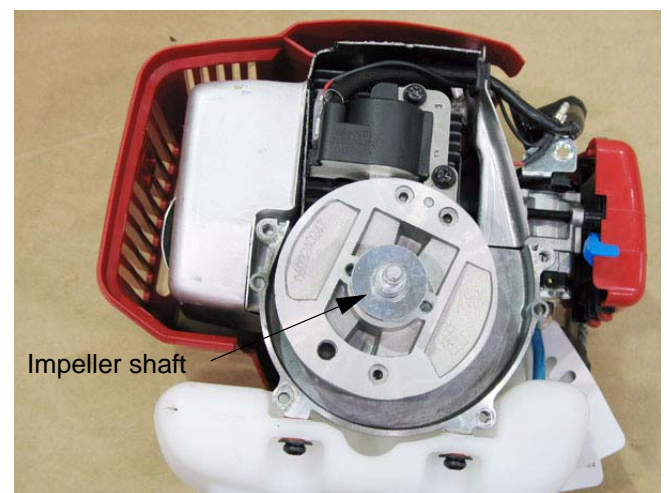

Figure 10.3
- 2a. Remove the impeller shaft. See Figure 10.3.